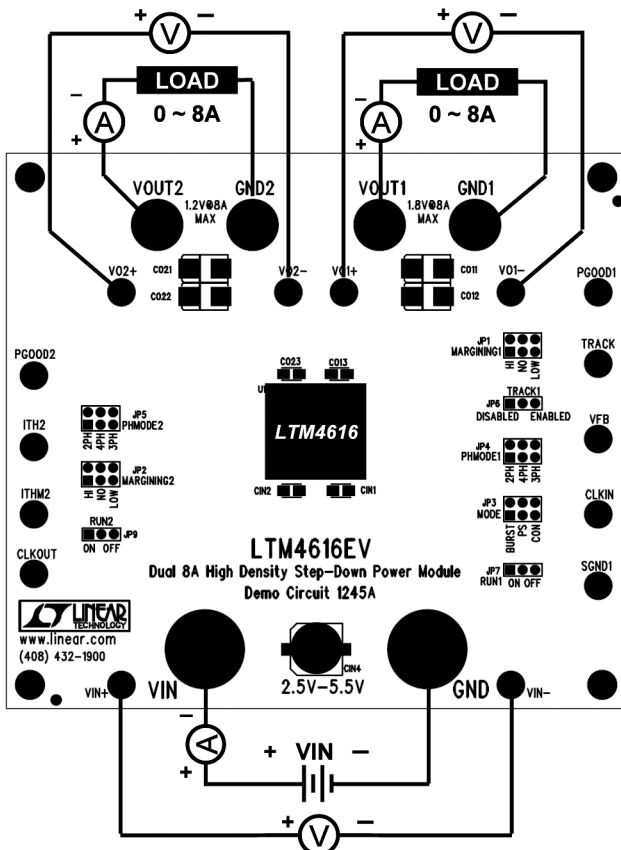

Figure 1. Test Setup of DC1245A
Demonstration circuit 1245A is an easy way to evaluate the performance of the LTM4616. Please refer to Figure 1 for proper measurement equipment setup and follow the procedure below:
2. With power off, connect the input power supply, load and meters as shown in Figure 1. Preset the load to 0A and V_{IN} supply within the 2.7V to 5.5V operating range.